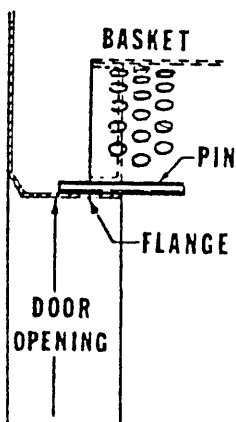
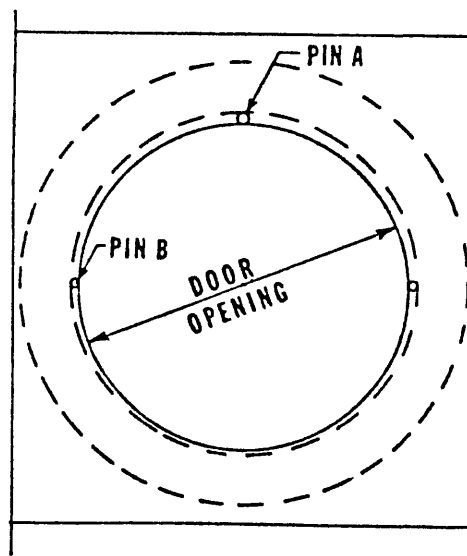

FIG.1
FIG.2
2. Place the "A" pin ($\frac{1}{2}$ " diameter) at top, and the two "B" pin ($\frac{5}{16}$ " diameter) at the sides of the door opening as shown in Fig. 1 & Fig. 2. (inside the dryer compartment between the rim of the basket opening and the rim of the door opening).
4. Check the space between basket and door opening at "B" pin position (Fig. 2). If the gap is not approximately the same on both sides, repeat steps 1, 2 & 3.